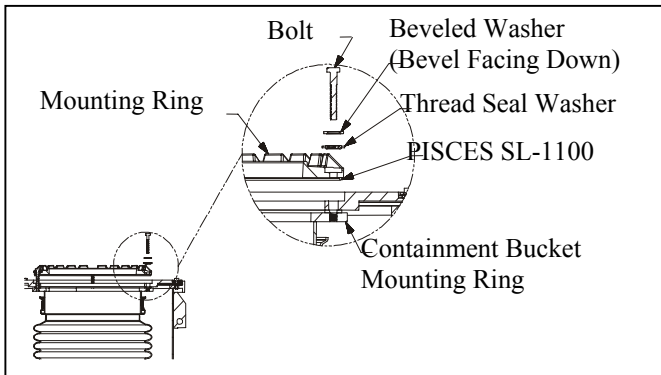

Figure 5
15. Maintenance or as needed: Apply an even bead of PISCES SL-1100 onto the bottom of the mounting ring before assembling the containment bucket mounting ring and the mounting ring onto the multi-port cover. (See Figure 5.)
16. Install the beveled thread seal flat washer and the thread seal washer onto the bolts for the mounting ring. (See Figure 5.)